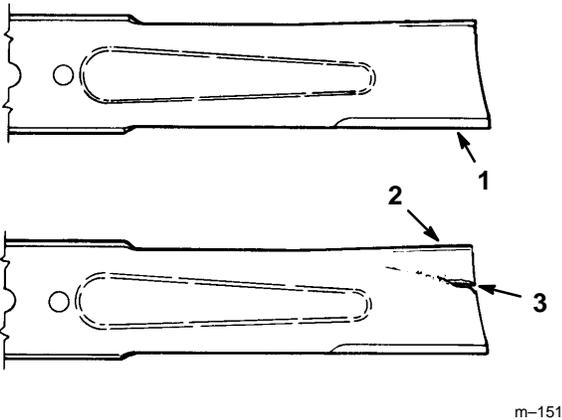

Figure 17
1. Inspect the cutting edges (Fig 17). If the edges are not sharp or have nicks, remove and sharpen the blades. Refer to Sharpening the Blades on page 34.
2. Inspect the blades, especially the curved area (Fig. 17). If you notice any damage, wear, or a slot forming in this area (item 3 in Fig. 17), immediately install a new blade.